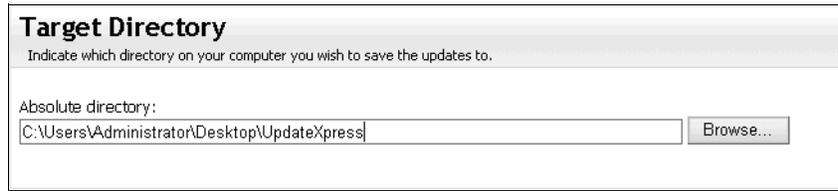

Figure 6-16 UXSPI Target Directory panel
- Now, select the Target Directory where you want to store the files to be downloaded, as shown in Figure 6-16, and then click **Next**.